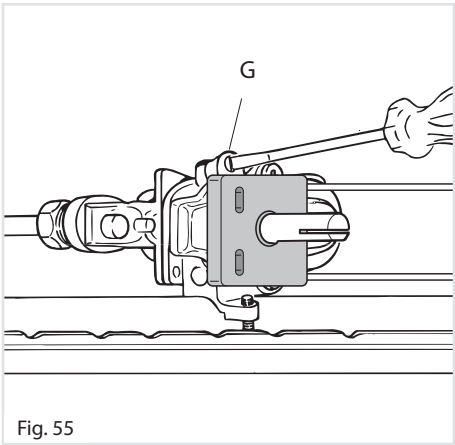

Fig. 55
- remove the knob and by a thin screwdriver (3 mm section - 100 mm long) unscrew of about a half turn the screw by-pass, passing through the front panel hole (fig. 55)